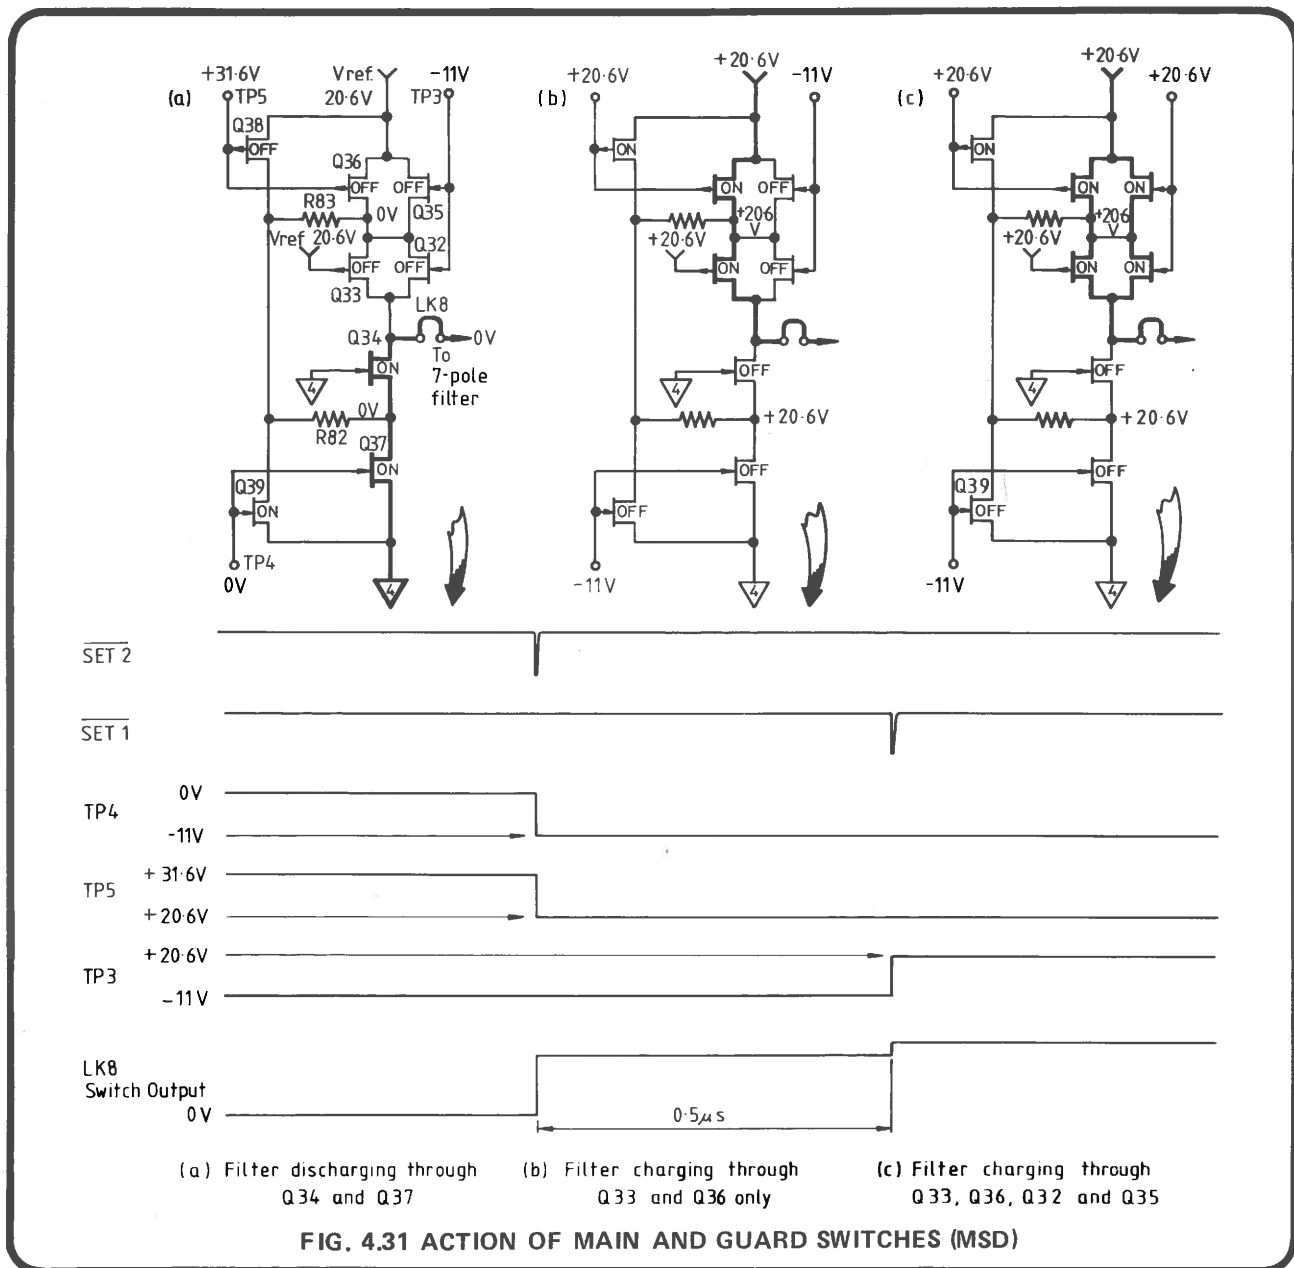

FIG. 4.31 ACTION OF MAIN AND GUARD SWITCHES (MSD)
4.6.8 Main and Guard Switches (Fig. 4.31 and Circuit Diagram No. 430444 Sheet 1)
Refer to Fig. 4.31, in which only the Space \rightarrow Mark state-transfer a-b-c is shown. (The Mark \rightarrow Space transfer is symmetrical c-b-a). The switch driver flip flops establish the voltage shown at TP3, 4 and 5 as controlled
In Fig. 4.31(a) the switches are in "space" state. Any leakage current due to the high voltage of Q36/Q35/Q38 gates is shunted via Q39/R83, eliminating Q33/Q32 leakage by zero source-drain voltage. During "space" state the 7-pole filter capacitors have a discharge time constant which includes Q34 and Q37 'On' resistance (3-5 ohms each).
Fig. 4.31(b) shows this intermediate state after $\overline{\text{SET}} 2$ and before $\overline{\text{SET}} 1$, and Fig. 4.31(c) shows the fully-conducting state after $\overline{\text{SET}} 1$. Note that the second step on LK8 waveform is heavily exaggerated for descriptive purposes, and is not readily viewed on an oscilloscope. The longer charging time-constant during this half-microsecond is not sufficient to disturb the linearity of the filter in excess of specification.